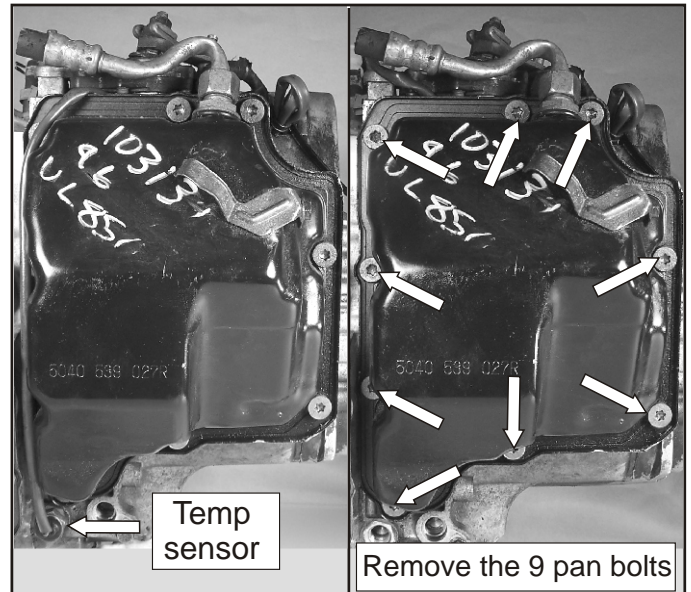

Figure 87
36. Using a 40 torx bit, remove the 9 pan retaining bolts as shown in Figure 87. **Note: the bolts are 15mm long.**